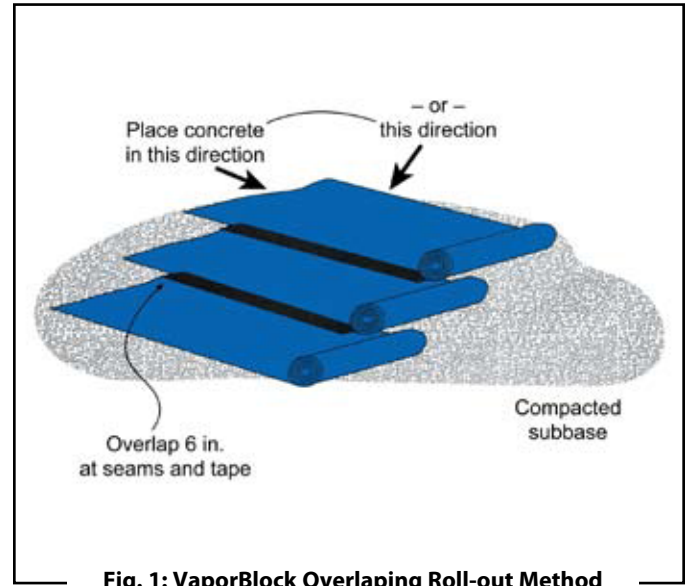

Fig. 1: VaporBlock Overlapping Roll-out Method
- 1.2. Unroll **VaporBlock** running the longest dimension parallel with the direction of the pour and pull open all folds to full width. (Fig. 1)